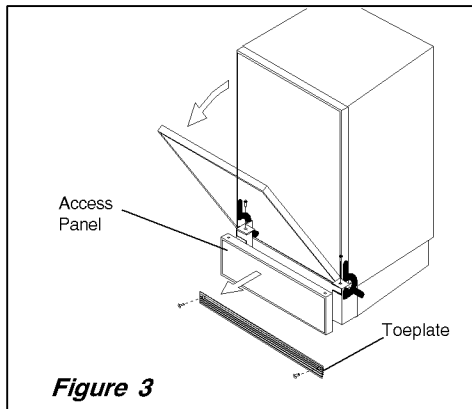

Figure 3
1. Remove the two bottom attach screws in the access panel/toeplate (see Figure 3).